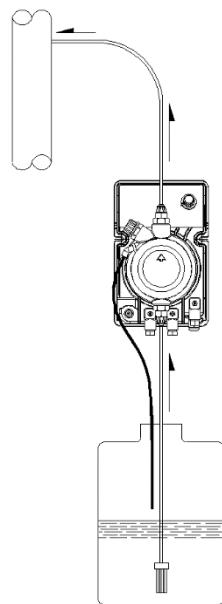
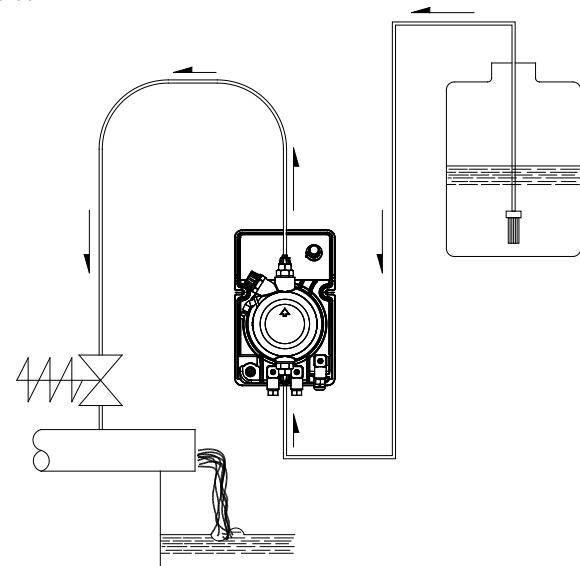

Fig. 5
Fig.6
C) Locate the pump as shown in fig. 5 bearing in mind that it may be installed either below or above the level of the liquid to be dosed, though the level difference should not exceed 2 meters. When the process plant in which the pump is installed is operating at atmospheric pressure (no back pressure) and the chemical tank is situated above the plant (Fig. 6), the condition of the injection valve should be checked at regular intervals, because excessive wear and tear could cause additive to drip into the plant even when the pump is shut down. If the problem persist, install a properly calibrate **counter-pressure valve** (C) between injection point and the valve. In the case of liquids that generate aggressive vapours, do not install the pump above the stor-age tank unless the latter is hermetically sealed.